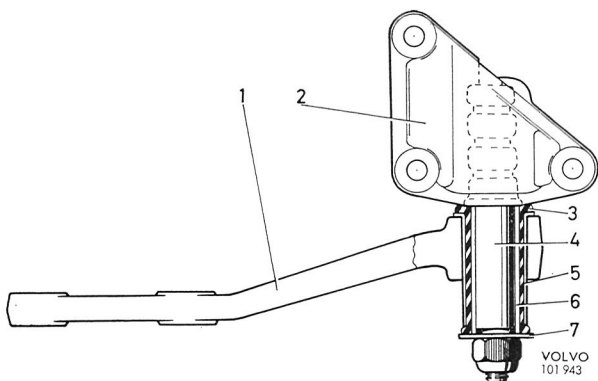
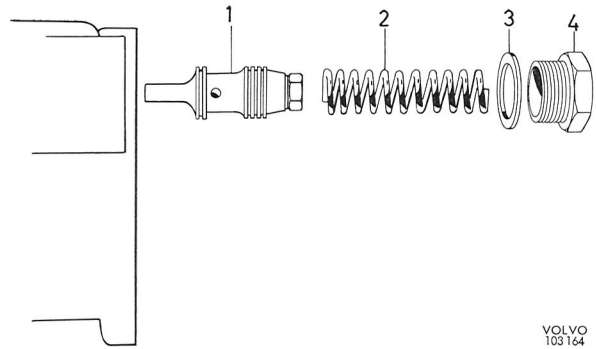

Fig. 6-67. Relay arm journaling
Fig. 6-70. Removing control valve
3. Remove the three attaching bolts for the bracket (2, Fig. 6-67) and lift out the unit.
3. Remove the nut and washer (7, Fig. 6-67) and take down the relay arm (1).
- b) Remove the pump control valve, see Fig. 6-70. Observe the utmost cleanliness. Wash and blow clean before screwing out the plug (4, Fig. 6-67), which should be done from